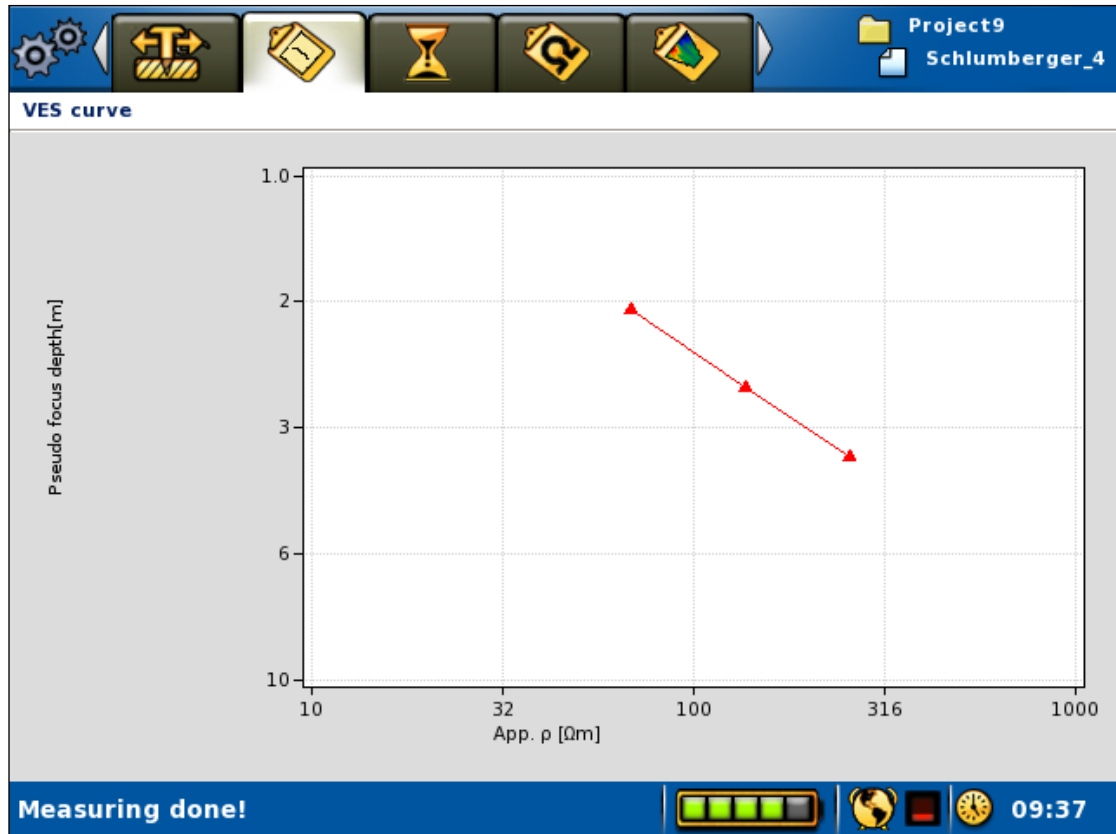

Figure 71 VES Curve View example
- The “*Measure/VES Curve*” View (Figure 71) displays a sounding curve of the made measurements
In VES mode a sounding curve will be shown in a double logarithmic diagram on the *VES Curve View* (Figure 71). Focus depth (median depth penetration) will be on the vertical axis and apparent resistivity on the horizontal axis.